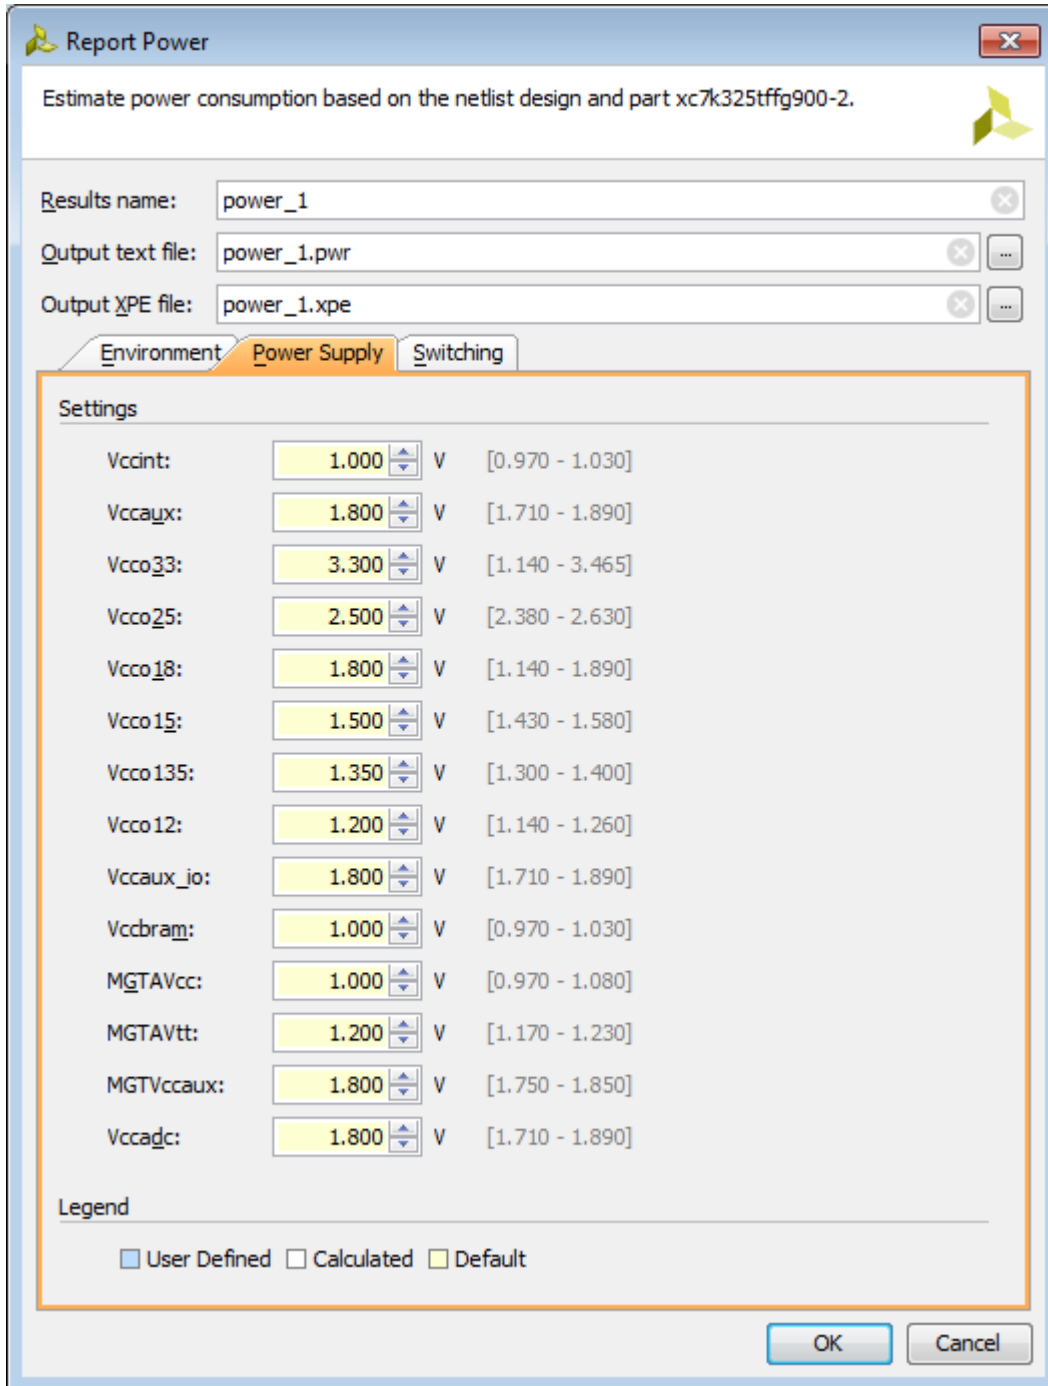

Figure 8: Report Power Dialog Box – Power Supply Tab
6. Examine the **Power Supply** tab (Figure 8).